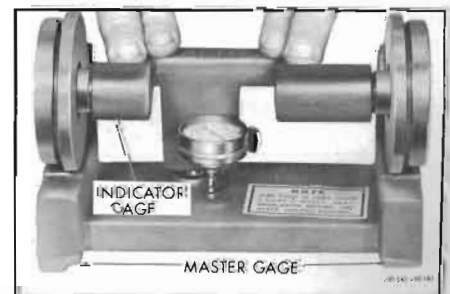

Figure 40-125—Zeroing Pinion Setting Gauge
3. Place the indicator gage on the master gage, as shown in Figure 40-125 so that the spring loaded center is engaged in the centering hole, and the inner, large diameter portion of each disc contacts the master gage pads.